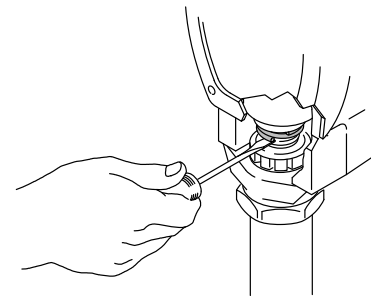

Fig. 13
3. Push the retaining spring (35) up. See Fig. 13.